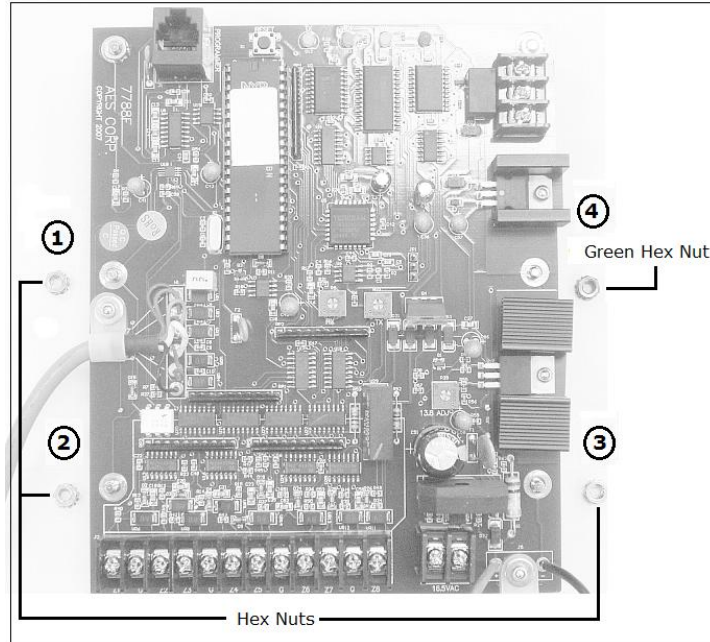

Figure 2.
- Remove four (4) of the hex nuts shown in Figure 2 that hold the subscriber unit board in the subscriber enclosure. Save the hex nuts.
- Mount the 7794 PC board on four newly installed standoffs. Install insulating washer (P/N 09-7X94) over mounting hold H3. Temporarily secure the board using the 4 hex nuts removed earlier **Important:** Place the Earth Ground hex nut (green) on the right side center hex standoff as shown in Figure 2 above.